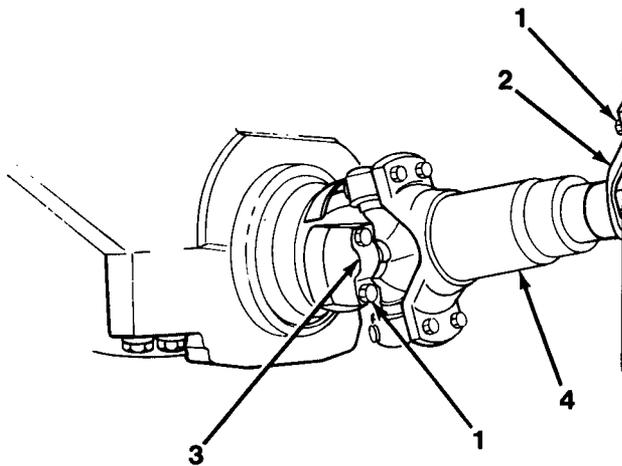

Figure 12-1
1. Remove four capscrews (1) from front spider bearing assembly (2, Figure 12-1).
2. Remove four capscrews (1) from rear spider bearing assembly (3).
3. Lower drive shaft assembly (4) and remove from under vehicle.